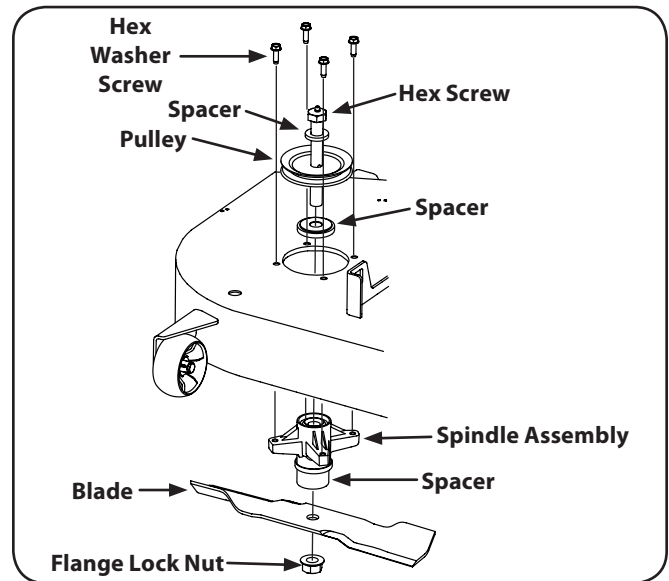

Figure 7-12
2. Use a $\frac{3}{4}$ " wrench to hold the hex washer screw on the top of the spindle assembly when loosening the flange lock nut securing the blade. See Figure 7-12.